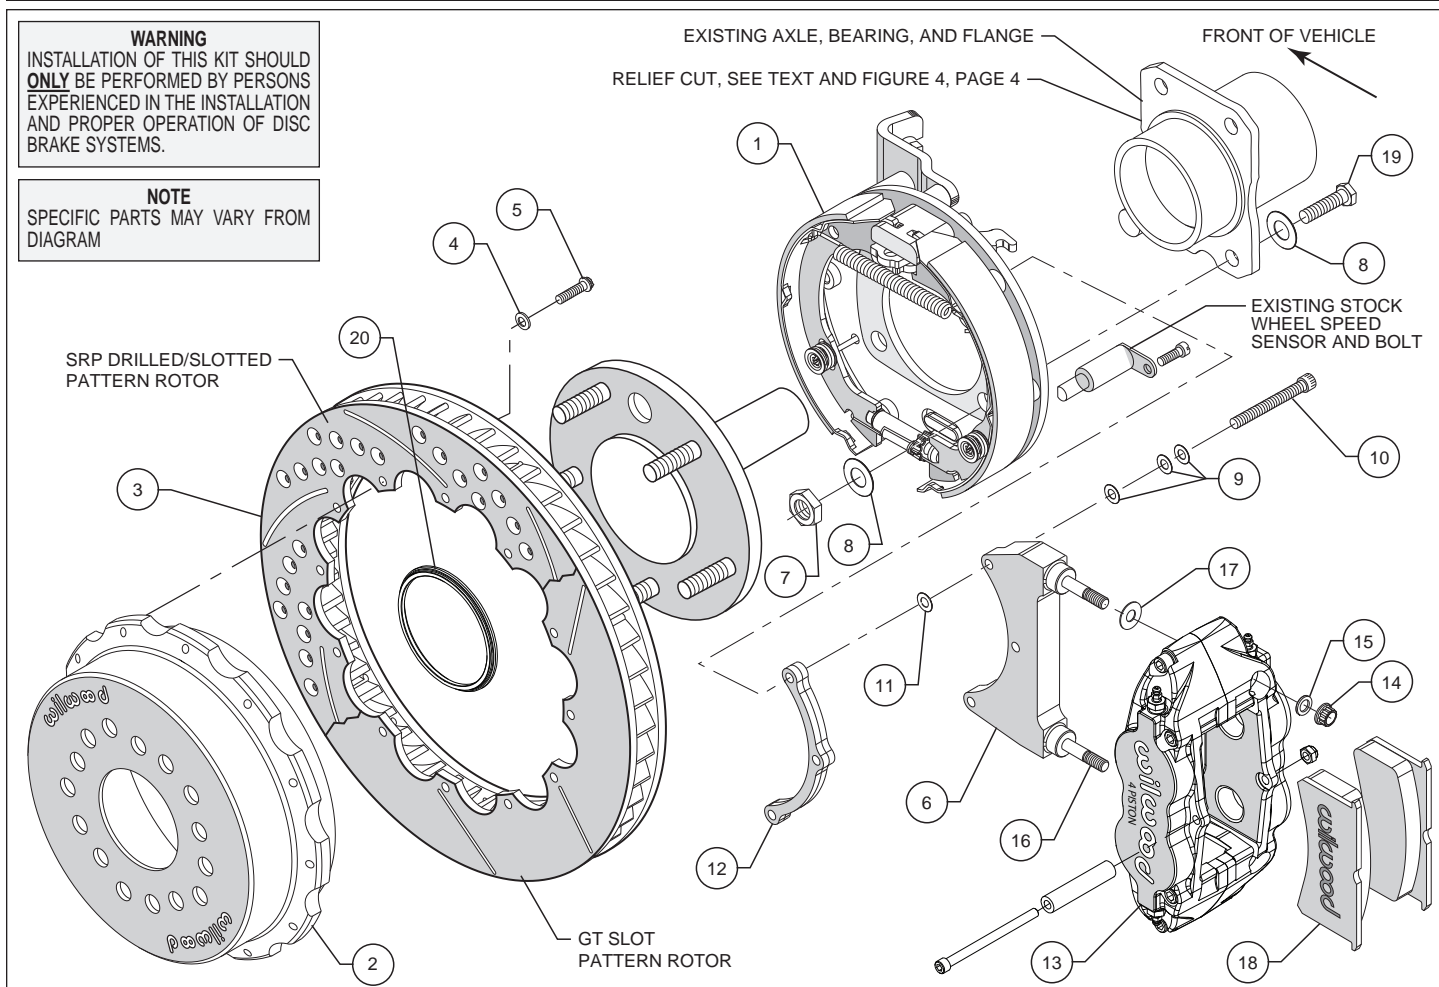

Figure 1. Typical Installation Configuration
- Slide the rotor registration adapter (20) onto the axle register on the axle flange with the smaller O.D. facing toward the rotor/hat (2). Align the correct hole pattern in the hat with the stud pattern on the axle flange. **NOTE:** Some OEM and aftermarket axles come with stud sizes larger than 0.50" diameter. Verify stud size and have a qualified machine shop drill the hats to the correct size, if necessary. Slide the hat/rotor assembly (2 and 3) over the wheel studs covering the bracket kit assembly (1) and against the axle flange face. Check to be sure the hat seats squarely against the hub. Install a couple of lug nuts (finger tighten) to keep the rotor/hat assembly in place while continuing with the installation.
- NOTE:** Please reference the caution statement at the beginning of the assembly instructions. The caliper mounting bracket assembly (6) should be installed first with clean, dry threads on the mounting bolts (10). Install the bracket from the rear side of the bracket kit assembly (1) by sliding bolt (10) through three flat washers (9), bracket (6), shim washer (11) and finally through the spacer (12), see Figure 1. **NOTE:** End of bolt should not exceed inside face of insert. The bracket must tighten squarely against the back side of the bracket kit assembly (1). Inspect for interference from casting irregularities, machining ridges, burrs, etc. Use one thin shim (11) between the bracket (6) and spacer (12) during initial trial fitting.
- Install one shim (17) over each pre-installed stud (16) on the radial mount bracket (6). Slide the caliper (13) in place over the studs and rotor, then install the washer (15) and lock nut (14) to hold the caliper in place. Snug the lock nuts (14) and check that the rotor (3) is centered in the caliper (13). Add or subtract .015" shims (11) as necessary between the caliper mounting bracket (6) and the spacer (12) to center the caliper (13).
- Remove the caliper center bridge pad retainer bolt, nut, and tube from the caliper. Slide the brake pads (18) into place. They should install easily without interference. Check that the outside radius of the brake pad is aligned with the outside radius of the rotor. Add or subtract shims (17) between the caliper (13) and mount bracket (6) to gain the proper alignment. Reinstall the center bridge pad retainer tube, bolt, and locknut. The locknut should be snug without play in the bolt or tube. Be cautious not to over tighten.
- Adjust the parking brake shoes outward (using a drum shoe adjustment tool available at your local auto parts store) while turning the hat (2) until a slight drag is felt against the hat/drum. Remove the lug nuts that were holding the hat/rotor in place. Install the wheel and lug nuts. Check to see that the wheel rotates freely without interference.
- Once all clearances have been checked, remove the wheel, caliper, hat/rotor from the bracket kit assembly (1). Secure the caliper mounting bracket (6) to the bracket kit assembly (1) using red *Loctite*® 271. Torque bolts (10) to 180 **in-lb**. Reinstall the hat/rotor assembly and again use lug nuts to hold it in place. Lubricate caliper mounting studs and nuts with lightweight oil, reinstall the caliper, torque the caliper nuts (14) to 30 ft-lb.
- NOTE:** Clevis and cable kits which attach to the parking brake assembly are not included in the Wilwood parking brake kit. Wilwood offers a parking brake cable kit, P/N 330-11221 for 2005-2010 and P/N 330-12335 for 2011-present which can be ordered separately from your local Wilwood dealer or by calling Wilwood customer service at (805) 388-1188.